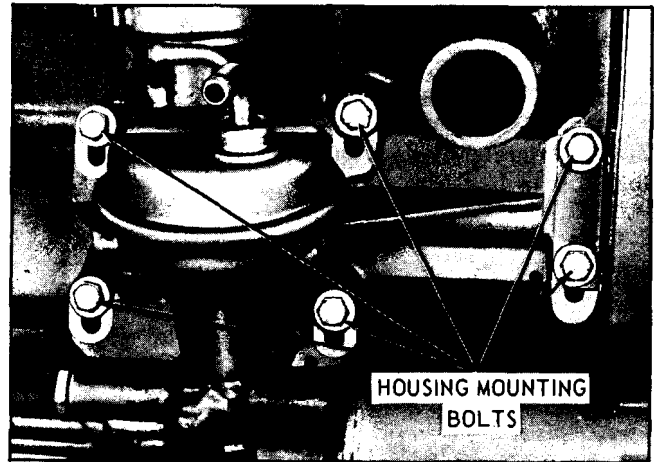

Fig. 6-11 Accessory Drive Hosuing Mounting Bolts
5. With J 22232-1 installed as above, adjust accessory drive housing (Fig. 6-11) up or down as required to obtain a tension adjustment indicator centered in the green range with drive housing mounting bolts torqued to 15 lb. ft.
3. Loosen six accessory drive to engine block mounting bolts (Fig. 6-11).